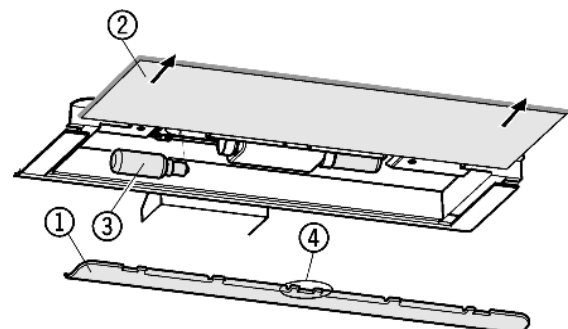

Fig. 23
- ▶ To remove the cover Fig. 23 (1): put your finger behind the cover and disengage it.
- ▶ Pull out the glass shelf Fig. 23 (2).
- ▶ Change the bulb *Fig. 23 (3)*.
- ▶ Attach the cover again, engage it at the right and left and pay attention that the middle hook *Fig. 23 (4)* grips over the glass shelf.